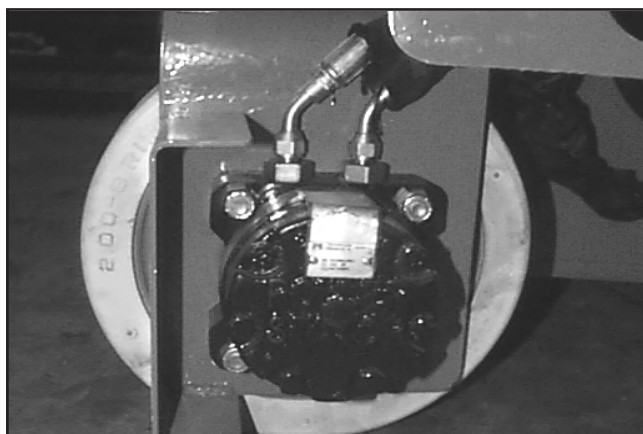

Figure 4.1—Wheel Motor and Fittings
To remove a wheel drive motor for service, the wheel must first be removed following the above instructions. Once removed, the motor shaft nut is exposed. Remove the nut. Wipe clean and disconnect the two hose fittings on top of the motor (figure 4.1). Remove the four nuts fastening the motor to the mounting plate. The motor should now be free for service.
- All 45° hose fittings should be oriented rearward and against the motor mounting plate (figure 4.1).